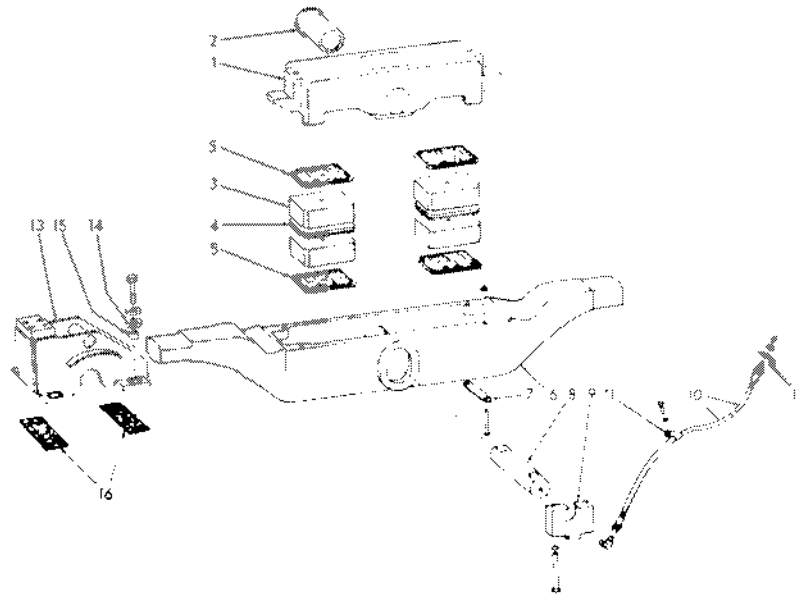

FIG. 97 OSCILLATING BEAM COMPONENTS
Refer to Fig. 97 and remove beam saddle (13) and push bar from beam and track frame.
Refer to Fig. 97 and remove capscrews that attach blocks (7). Place oscillating beam in a suitable press (100 ton)